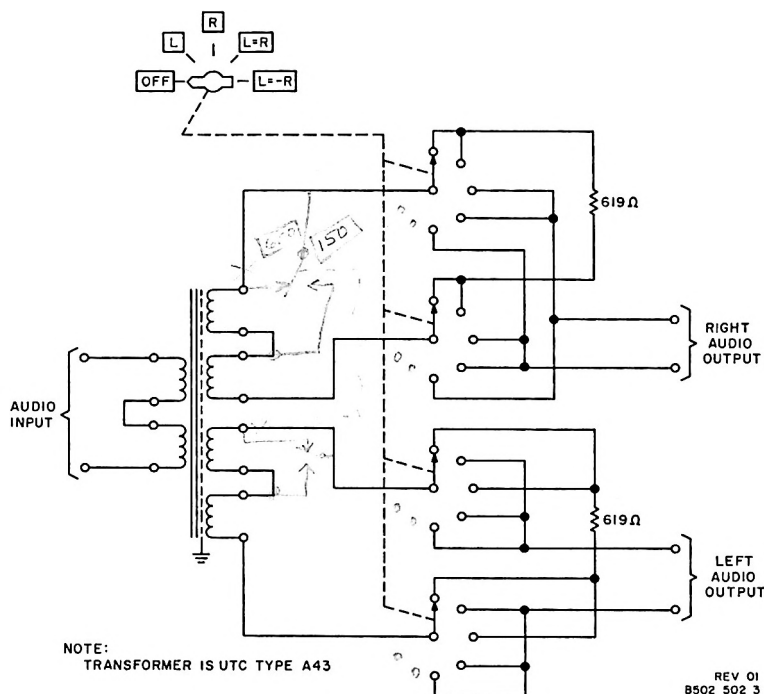

Figure 5-3. Stereo Test Circuit, Schematic Diagram.
Stereo test circuit	Fabricated per figure 5-3
- b. Place MODULATION switch on 310Z-1 to LEFT and stereo test circuit switch to L. (See figure 5-3.)
- e. Turn stereo test circuit (figure 5-3) switch to L position (left modulation only).